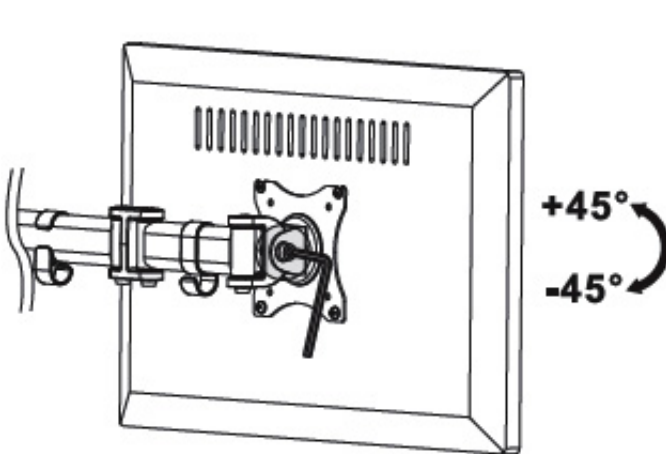
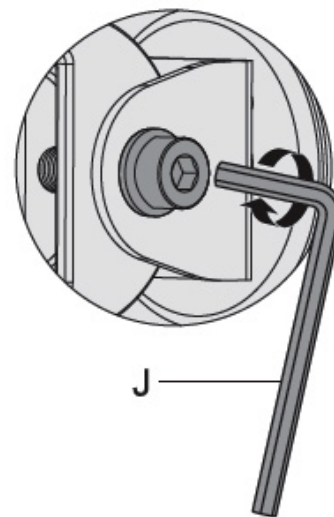

Figure 10a
Figure 10b
5. Adjust the monitor tilt angle. If the monitor does not stay at the desired position, use the 6mm Allen Key (J) to tighten the Vesa Plate bolt, see **Figure 10a** and **Figure 10b**.